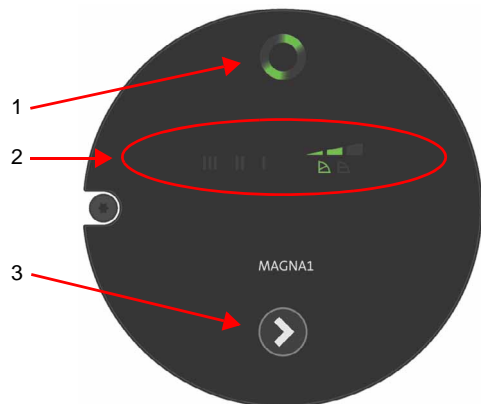

Fig. 13 Control panel
The Grundfos Eye is on when the power supply has been switched on. See fig. 13, pos. 1.
The pump has nine optional performance settings which can be selected with the push-button. See fig. 13, pos. 2 and 3.